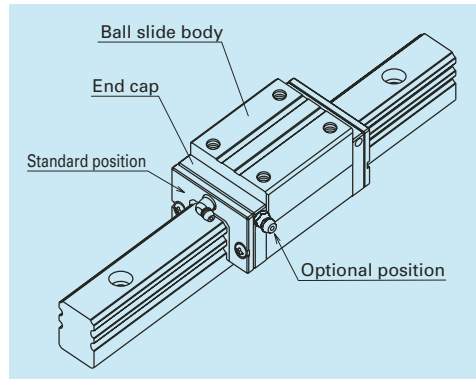

Fig. 11 Mounting position of lubrication accessories
- The standard position of grease fittings is the end face of ball slide. We mount them on a side of end cap for an option. (Fig. 11).